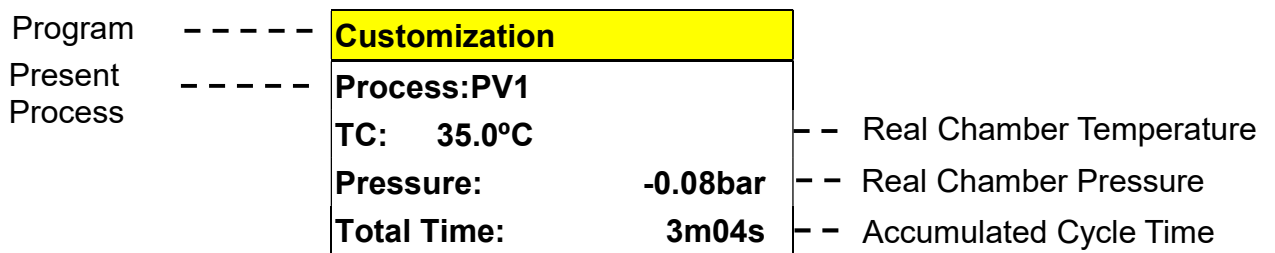

Figure 88
K. Press  button again to star the selected program. The relative information such as program cycle, present process, temperature, pressure and time as shown in Figure 88 will be displayed on the panel.